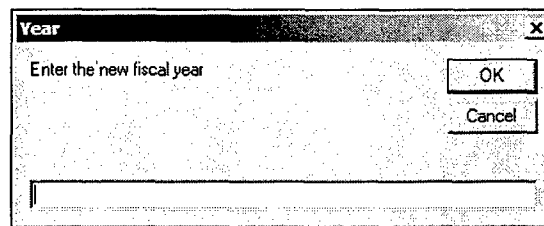

Figure 5. Create New Fiscal Year
2. Enter a new fiscal year in the box shown in Figure 5.